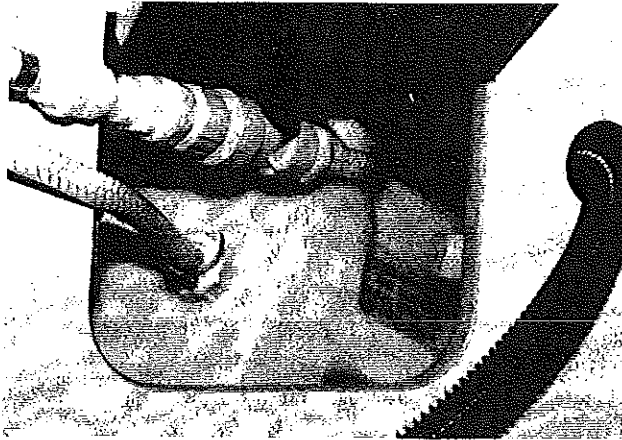

FIGURE 26
See Figures 26 and 27.
45. Lift one end of the sink module high enough to disconnect the utility hookups (drain line and water lines). This can be done by lifting the hatch door mounted in the lower cabinet top to expose the connections. See Figure 26.